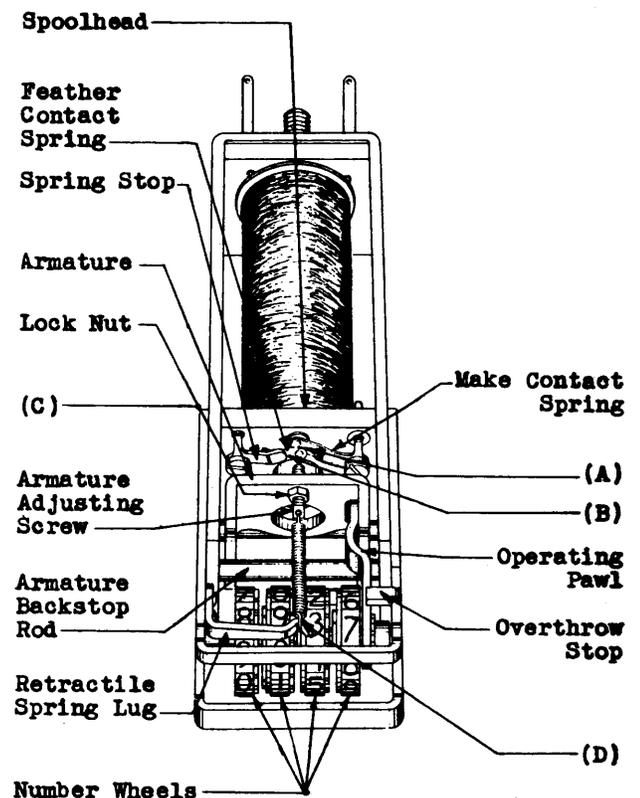

Fig. 7 - 5 Type Register
(a) Fig. 7(A): The separation between normally open contacts shall be:
(c) Fig. 7(B): On registers equipped with make contacts there shall be a slight clearance between the feather contact spring and the spring stop with the register unoperated. Gauge by eye.
***2.10 Tightness of Lock Nut** — Fig. 7 (C):
2.11 Retractable Spring Clearance — Fig. 7(D):